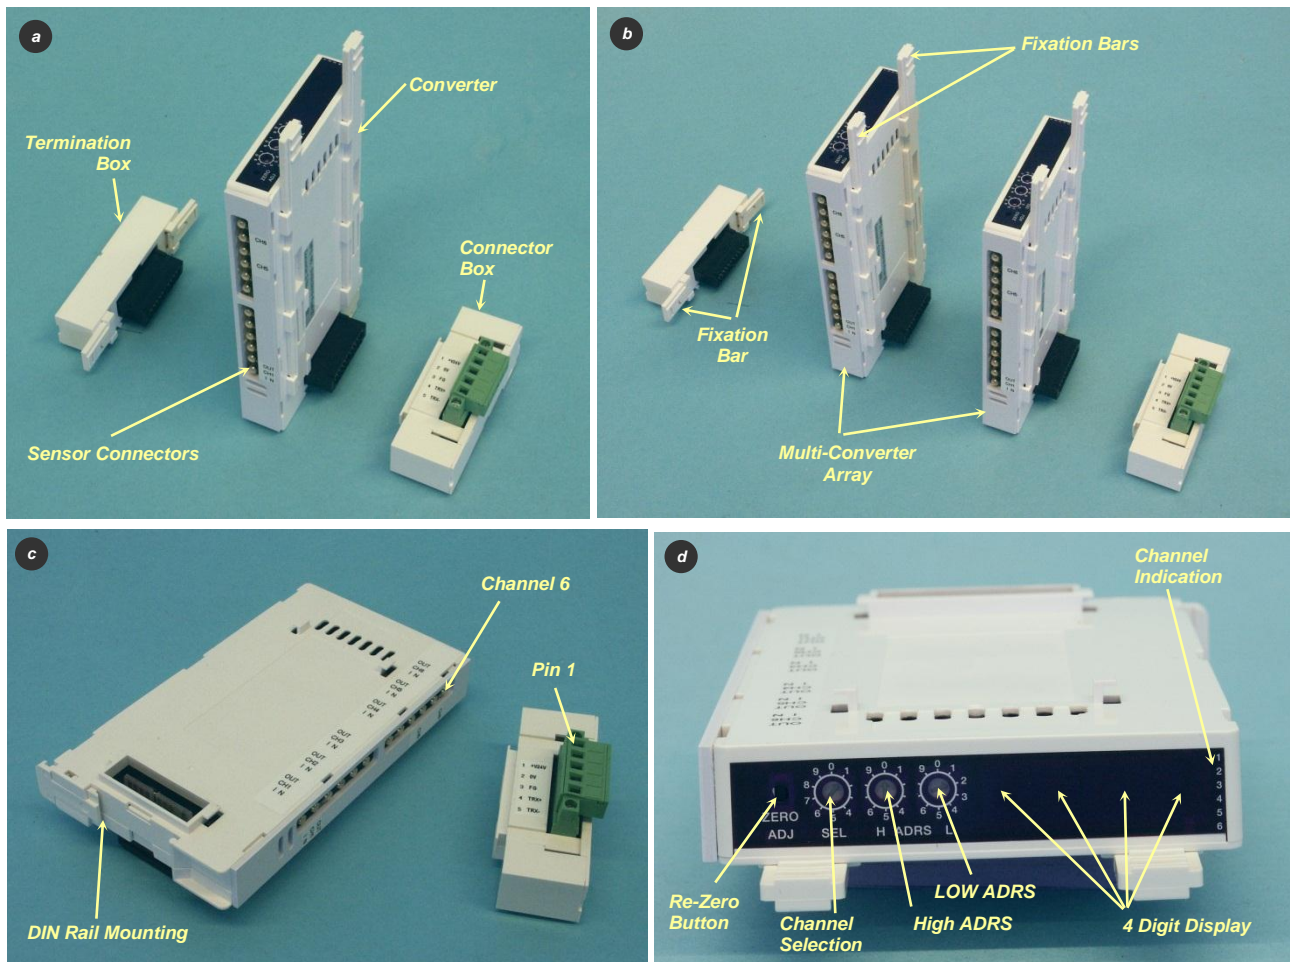

Figure 11: 6-channel controller LFC-6C
1. Check if all parts are delivered as shown in *Figure 11*. For every configuration (single converter as shown in *Figure 11a* and multi converter array as in *Figure 11b*) a termination box (resistance to terminate the RS485) and a connector box (wiring) is needed.